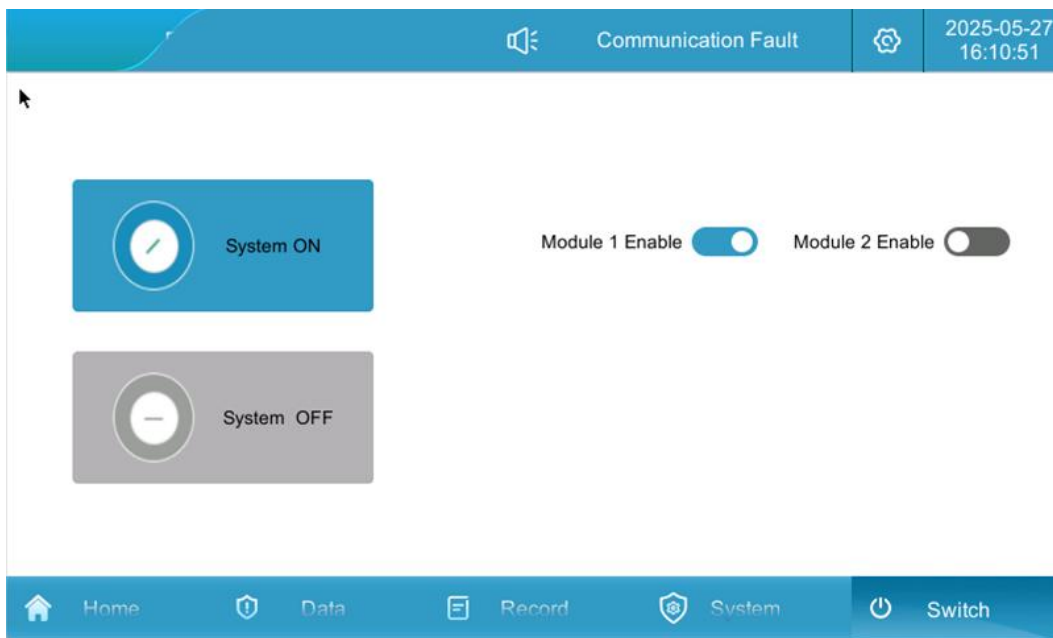

Figure 5-3 Switching Interface
4. In the touch screen “Switch” page to enable all the modules (you can also turn on some of the modules according to the actual need, the number of modules to the actual delivery shall prevail, in order to two modules as an example), click on the “System ON”, the normal opening time of about 30 seconds, as Figure 5.3
5. Converter shutdown: When the converter is in operation, click “System OFF”, as in Figure 5.3.